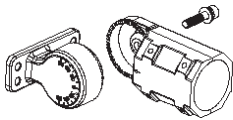

figure 1
1. Separate the slip fitter from the knuckle by removing the adjustment bolt using the hex wrench (not provided).(see fig 1)